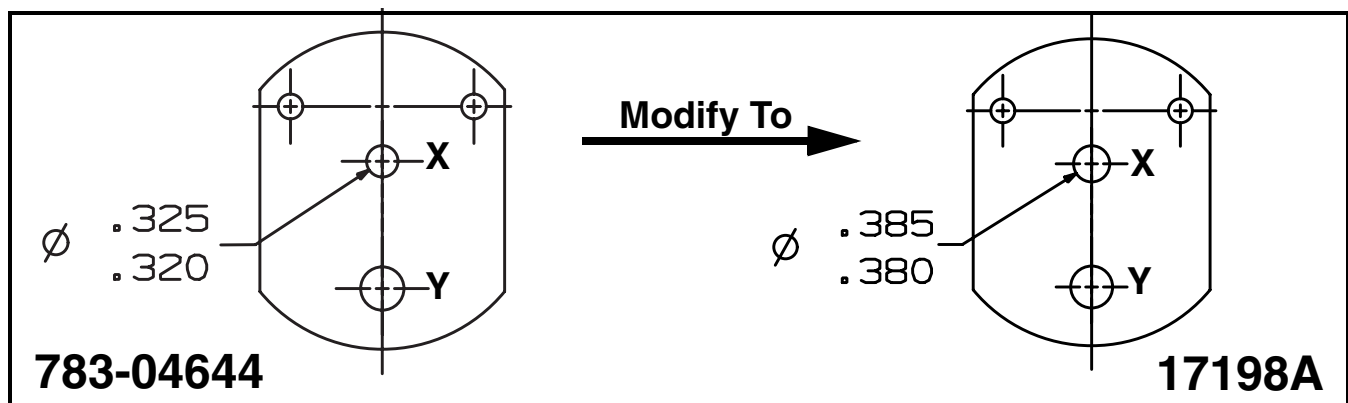

FIGURE 1
1. When replacing the 17198A with the current production 783-04644, it is required to open up the middle .325/.320" diameter hole of the 783-04644 to .385/.380" diameter. See Figure 1.